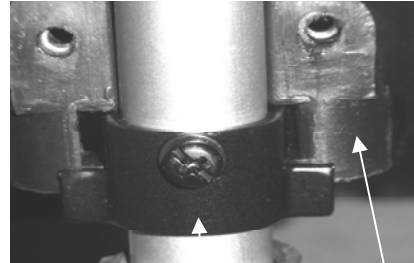
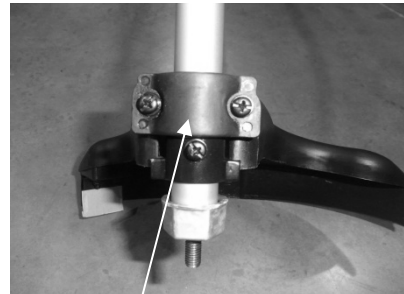

Fig 2 BRACKET A
Fig 4 PLATE B
- To install the guard to the shaft, locate the shield using bracket A as a locating point Fig 2, and secure using plate B and 2 screws Fig 4.